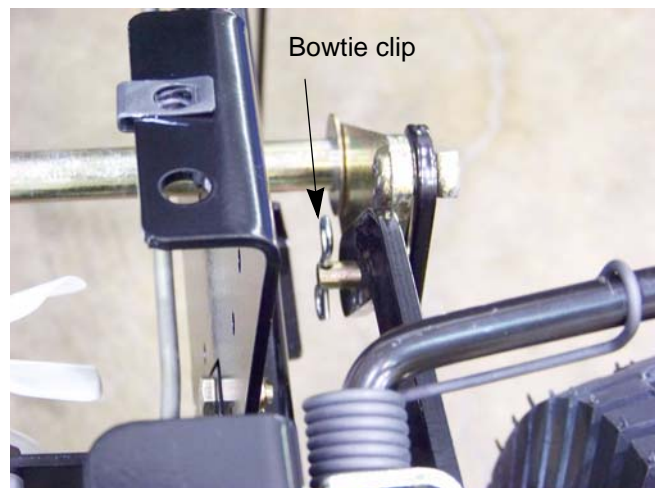

Figure 8.31
7. Remove the bowtie clip that holds the lift lever link to the lift shaft bell crank. See Figure 8.31.